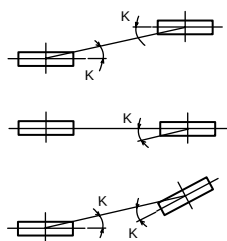

figure1 Parallel degree of pulley
- Set the parallel angle of the fan and the motor pulley as shown in the table and figure 1 below.
- Set the tension of the per one belt when the flexion load is within the range as shown in the figure 1 and table 2 below at the proper flexion. ($A = 0.016 \times C$ mm)